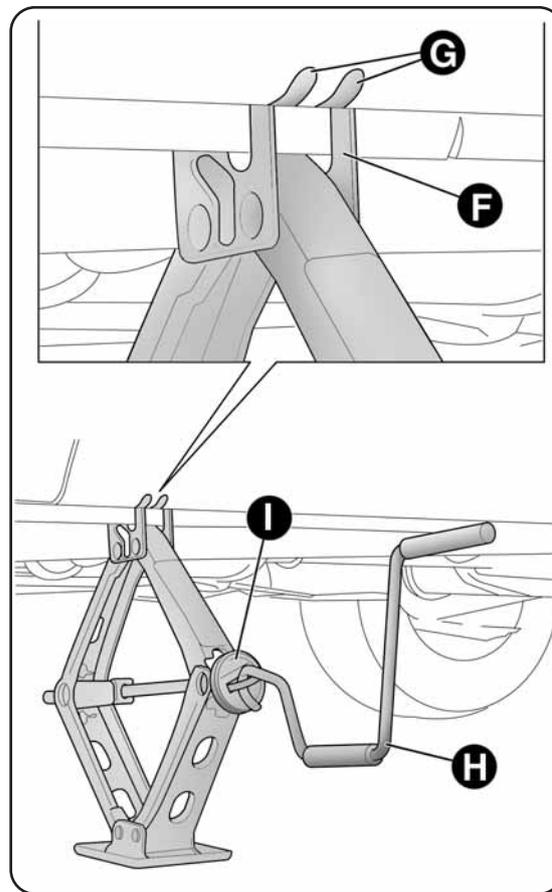

fig. 12
- make sure that the splines F-fig. 12 on the jack are firmly fitted to tab G on the side member;
- fit the handle H-fig. 12 into device I of the jack and lift the car until the wheel is several centimetres off the ground. When turning the handle, make sure that it rotates freely, without risking injury to your hand by rubbing it against the ground. Even the moving components of the jack (screws and joints) can cause injuries; do not touch them. If you come into contact with lubricating grease, clean yourself thoroughly;